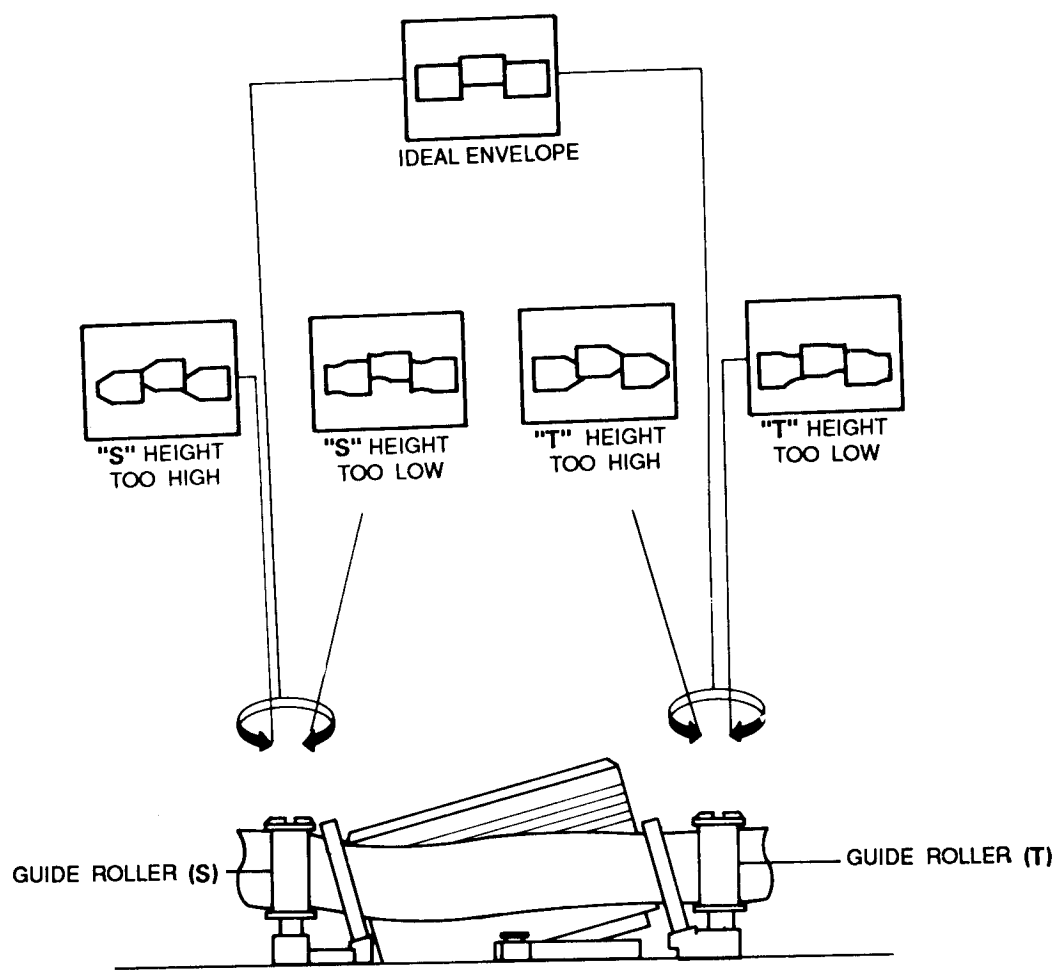

Fig. 13 S, T-Guide Roller Height Adjustments
- 9. Turn the guide roller heads with a flat head (⏏) screw driver to obtain flat video RF envelope as shown in Fig. 13.